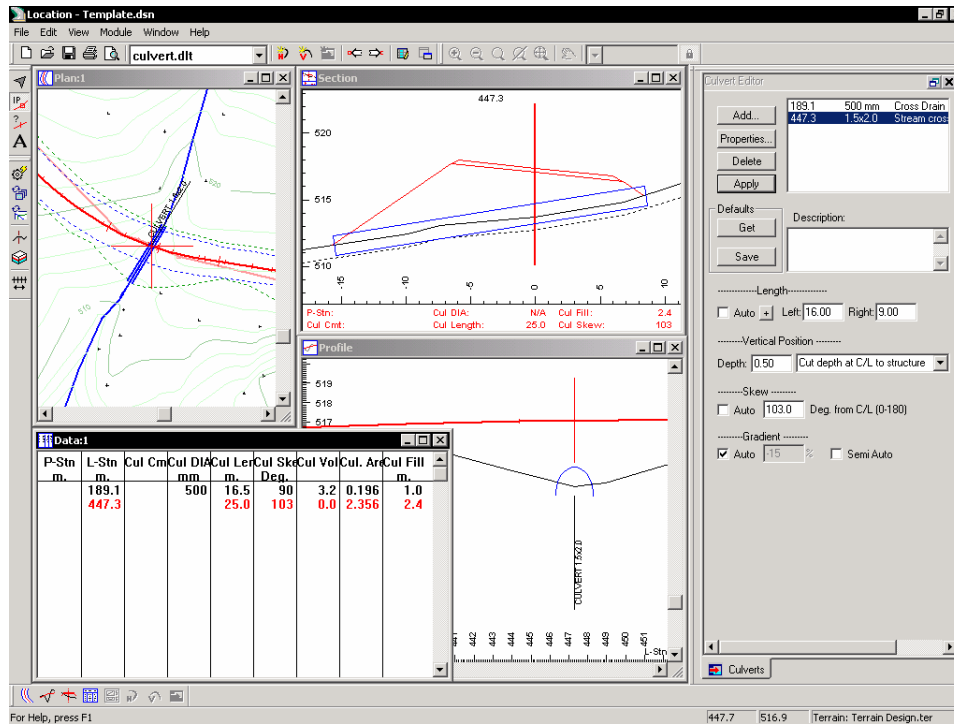

Figure 7.6: Pipe Arch Culvert
10. Set up the main culvert parameters as shown below. Turn off the *Auto Length* check box and set the lengths a little longer **16m left** and **9m right**. Set the *Vertical Position*, *Depth* field to **+0.5** to bury the edges of the arch. Finally adjust the skew to fit the stream as shown in the Plan: turn off *Auto* and set the *Skew* to **103** degrees. Press *Apply* to update all windows. Your final culvert design should be similar to Figure 7.6